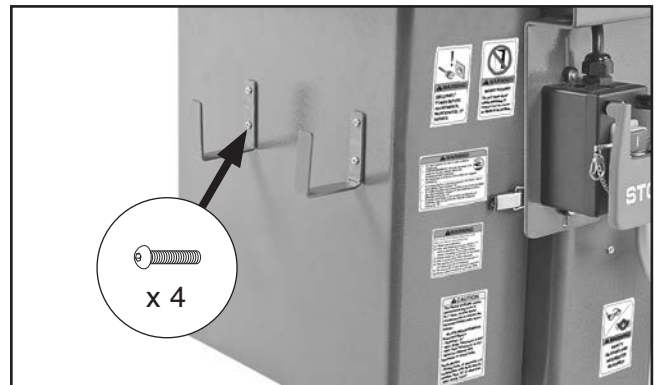

Figure 23. Fence resting brackets installed.
12. Mount (2) fence resting brackets with (4) M5-8 x 8 button head cap screws, as shown in **Figure 23**.